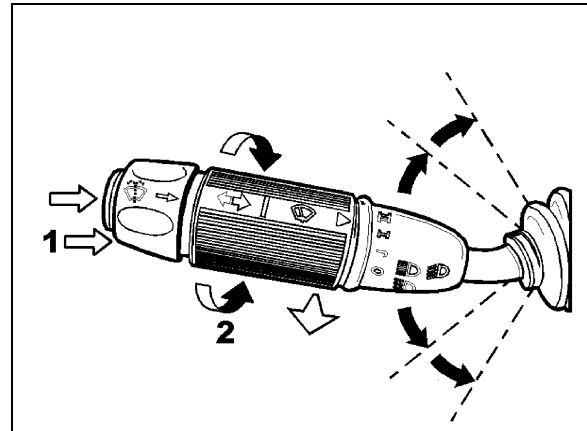

FIGURE 34: MULTIFUNCTION LEVER 23133
Turn the multifunction lever forward to activate windshield wipers (item 2, Figure 34). The first position operates the wipers at low speed and the second position operates the wipers at high speed. Turning the lever backwards will operate the wipers in the intermittent mode.
The windshield washer pumps are electrically operated and are controlled by a washer control ring on the multifunction lever (item 1, Figure 34).